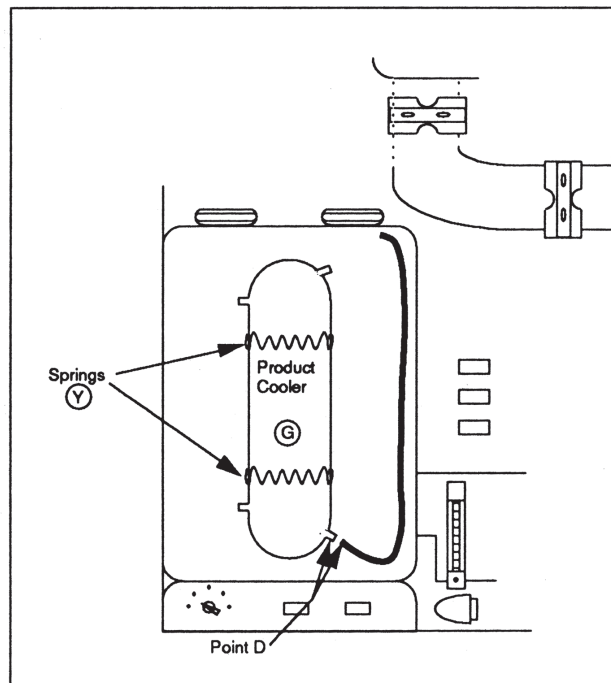

Figure 5
Refer to Figure 5 for the following steps:
5. Remove the two (2) springs **Y** from the product cooler **G** and remove cooler from cabinet.
7. Re-install product cooler in cabinet with the two (2) springs **Y**. Outlet on upper left hand side of cooler should be lined up with hole in cabinet .
8. Remove tape from 3/8" I.D. vinyl hose and connect to lower right product cooler outlet Point D (Figure 5). Use warm water for ease of assembly.